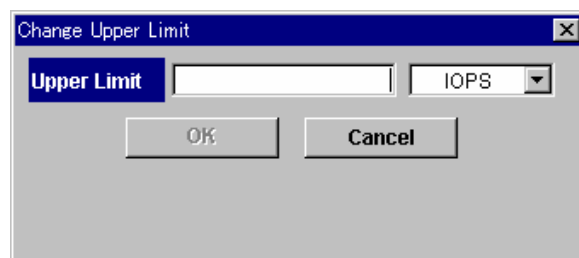

Figure 8.6 Change Upper Limit Dialog Box
- d) Right-click the selected SPM group and then select **Change Upper Limit** on the pop-up menu. The **Change Upper Limit** dialog box (Figure 8.6) is displayed.